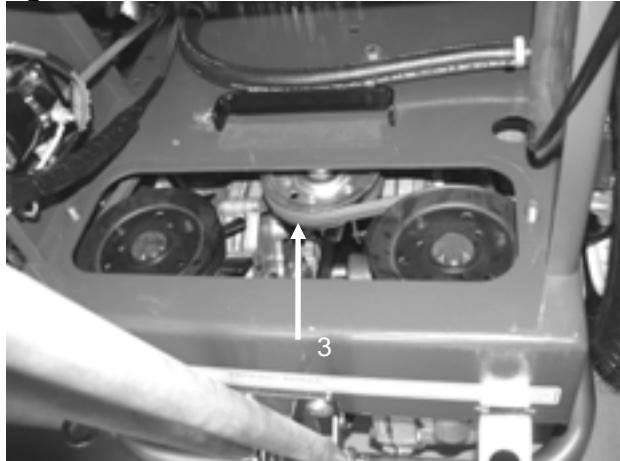

Figure 44
2. Using a 1/2" wrench, remove hydro access plate **Figure 44**.
3. Push the idler forward and work the belt off of hydro pulleys **Figure 44**.